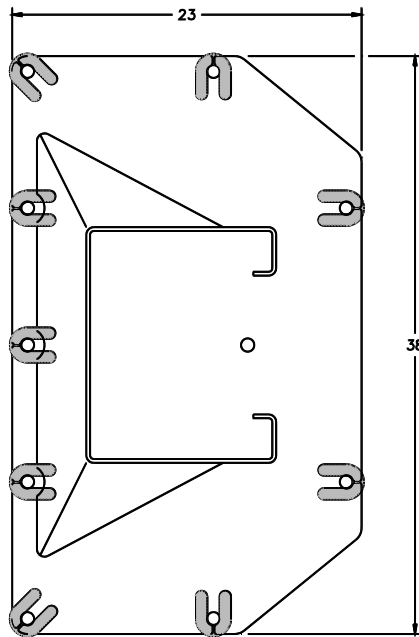

Figure 3
5. Shim both columns to plumb using the shims provided (Fig. 3). Do not shim more than 1/2" at any point. Use a level no less than 24" in length to plumb the columns.